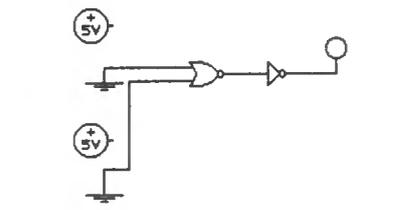

Fig. 7.24 NOR gate with inverted output (Assignment 7.2).
4. Connect the circuit shown in Fig. 7.24. The output of the circuit is connected to a logic level indicator whilst the two inputs are derived from +5V and ground points. Switch on the power and test the circuit by constructing its truth table.